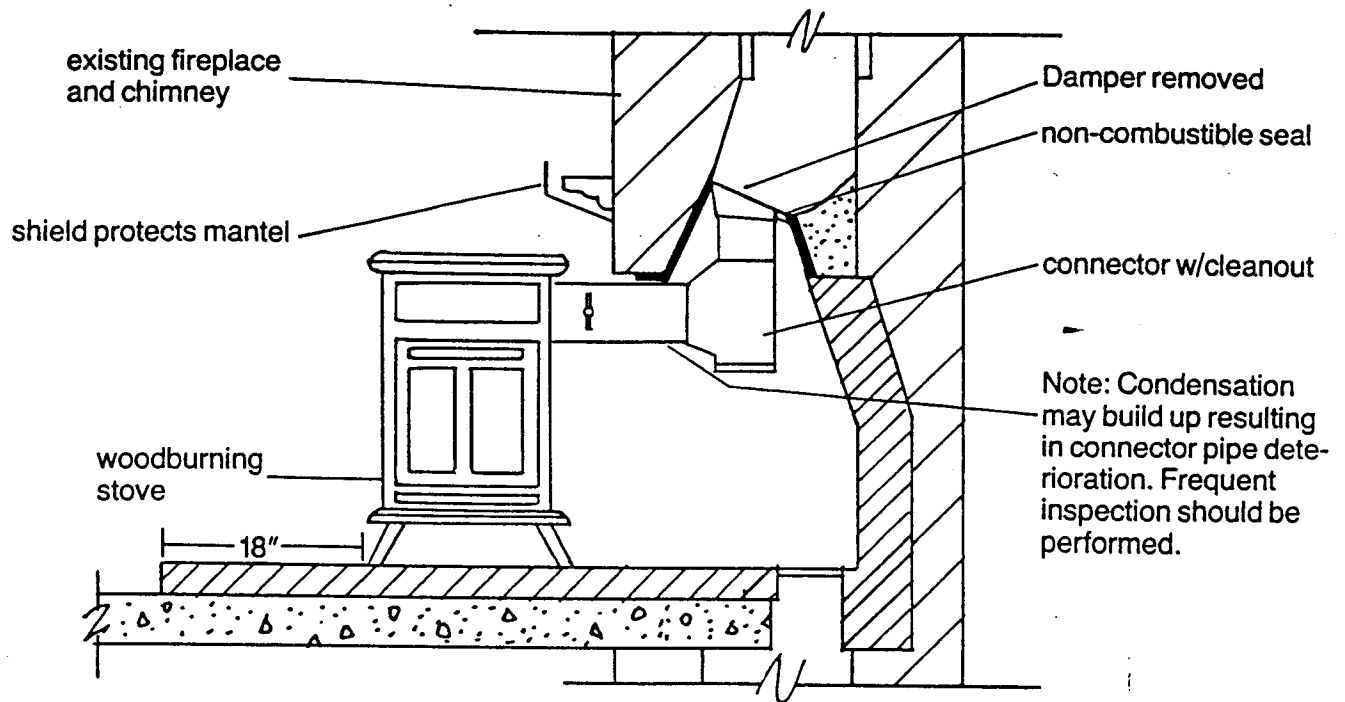

Figure 9.3
B. There are problem areas to be considered when connecting directly into the removed damper or with a non-combustible fireplace closure. The removed damper method may have problems with condensation build-up which results in pipe deterioration. The fireplace closure may have draft and excessive creosote build-up problems caused by the large volume of cold air in the fire chamber. A third method (not illustrated here) is to install the stove connector into the wall above the fireplace so that it enters directly into the flue. (Code 2109.6) (Fig. 9.3, 9.4)